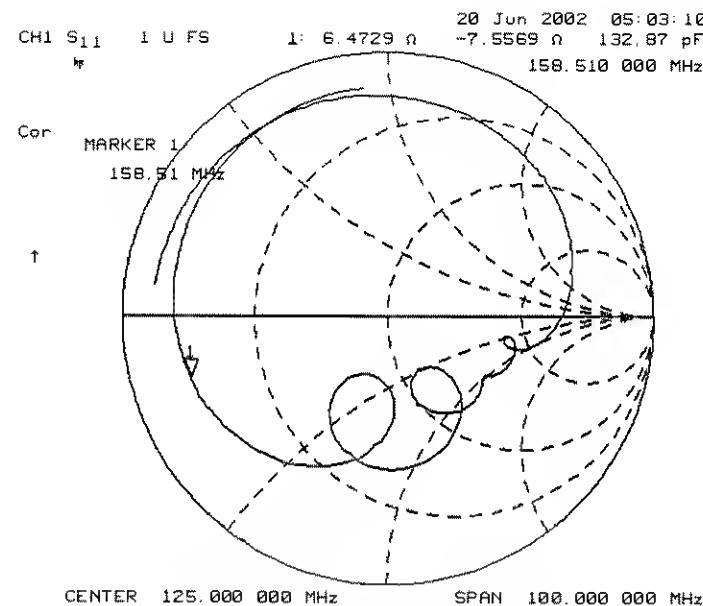

Figure 2-15. Example Impedance Measurement Trace
2. Press **MARKER MARKER MODE MENU SMITH MKR MENU** and turn the front panel knob to read the resistive and reactive components of the complex impedance at any point along the trace, as shown in Figure 2-15. This is the default Smith chart marker.